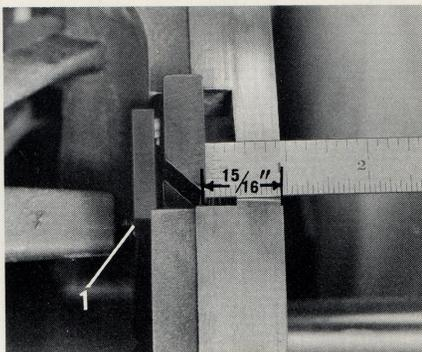

Fig. 3
3) In order to set the stopping and safety pawls correctly, adjust screw 1 (Figure 3) until you have obtained  $15/16$ " between the back